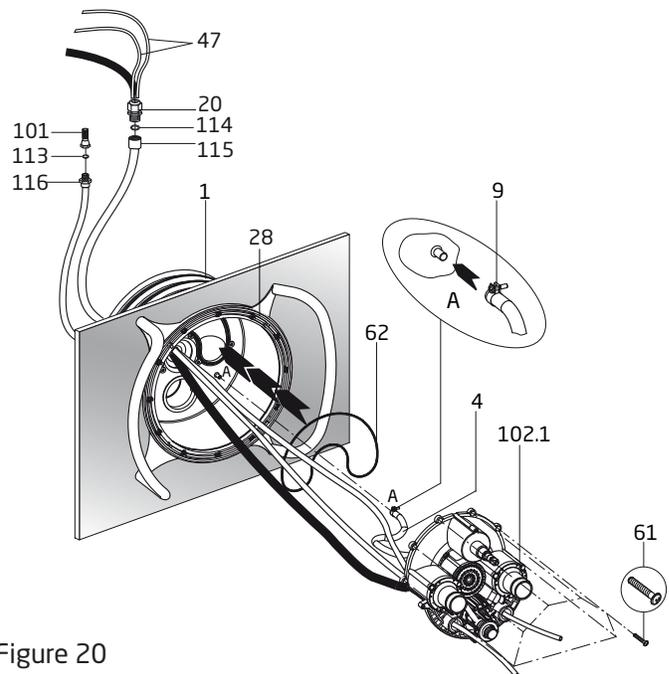

Figure 20
1. Insert the o-ring (part# 62) in the jet housing as shown in Figure 20.
2. Start the ten (10) nozzle housing tapping screws (part# 61) into the pre-assembled nozzle housing (part# 102.1). Place the nozzle housing at the main jet housing.